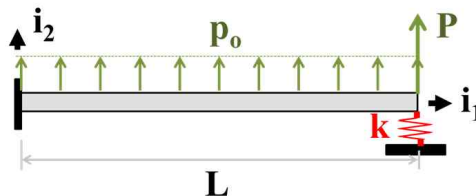

Figure 2. the cantilevered beam.
3. (30 points) The experimental set-up depicted in Fig. 2 is aimed at studying the behavior of materials under complex stress states. A thin-walled pressure vessel of radius $R=11$ mm and thickness $t=2.0$ mm is subjected to an internal pressure p_i . At the same time, a normal force, N , and a torque, Q , are applied to the sample.